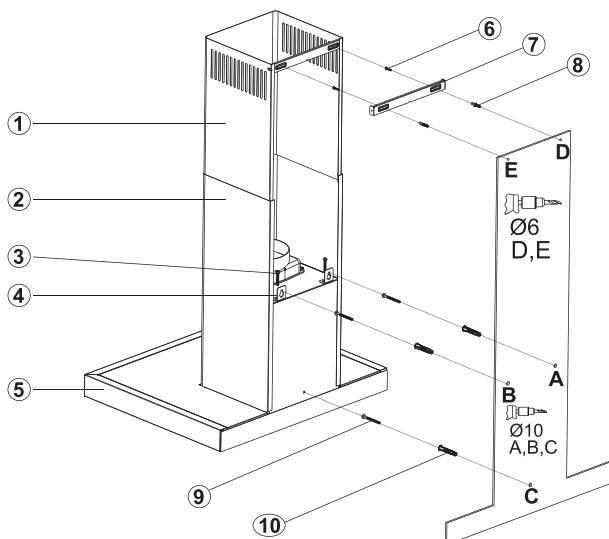

Fig. 11: INSTALLATION AND PARTS
- Stick the installation scheme on the wall at the specified height (check the minimum and maximum distance in the installation scheme for the workbench). Drill points A, B and C.(Fig. 11)
- Place Ø10mm pins in drilled A, B and C points and screw the screws to A+B points leaving 5 mm gap between screw head and the wall. (Fig. 11)
- Fix the hood rack sheets on the hood body by M5x35 bolts (3).(Fig. 11/10)
- Hang the hood on the wall by rack sheets at (A, B) points. When the hood is not parallel, loosen or tighten M5x35 screws (3) to make it parallel.
Internal and external sheet flues are inserted to each other. (Fig. 11)
- Flue connection sheet 3 is held directly on the wall under the cover by centering the Hood or measured and marked at points C, D (Fig. 11).
- Drill points E and F with Ø6mm drill and attach Ø6mm plastic pins. Attach flue connection sheet with 3.9x22 screws.(Fig. 11)